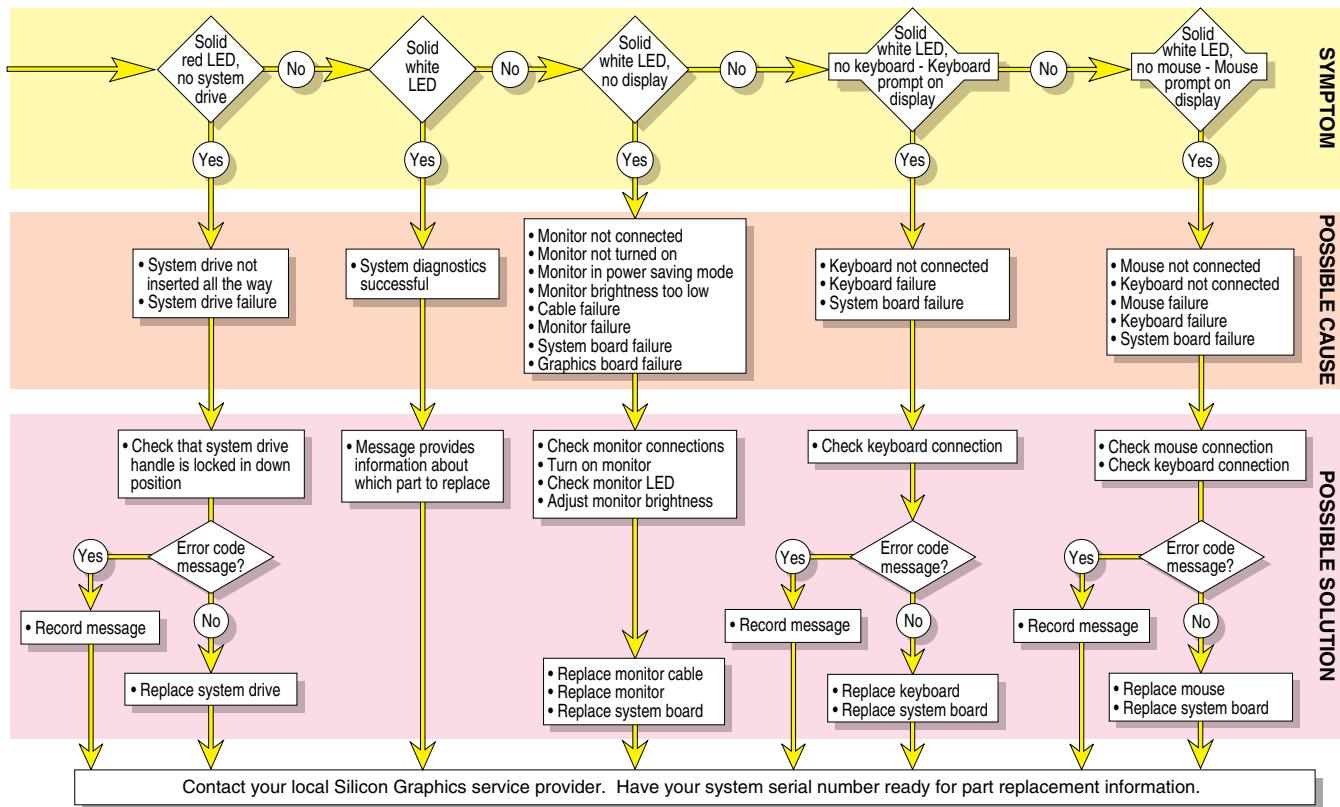

Figure 9-3 Lightbar LEDs - Front of OCTANE, Diagnostic Chart #3
- Lightbar LEDs - Front of OCTANE, Diagnostic Chart, Figure 9-3.